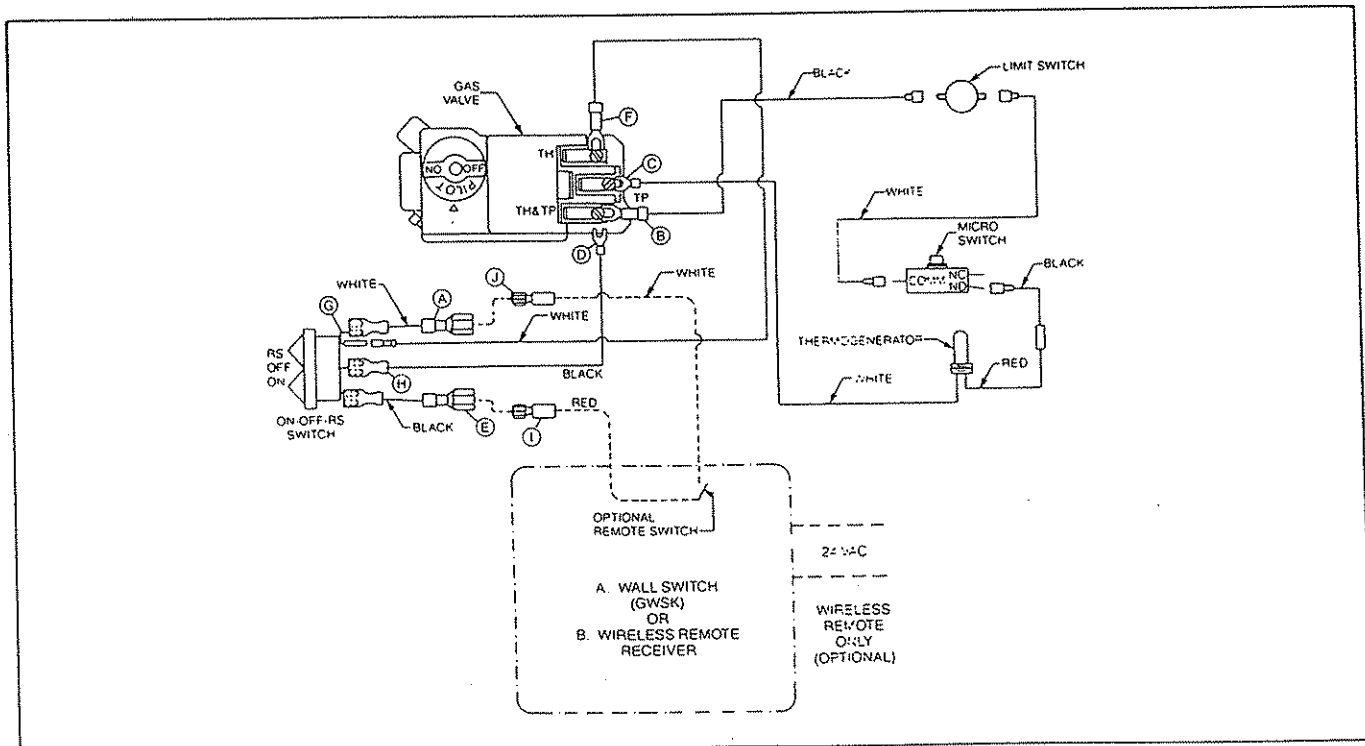

Fig. 16. Wiring diagram G36DVpi.
To the right and above the ON-OFF-RS SWITCH you will see two (2) similar non-attached connectors A and E. (See Fig. 16.) Insert connectors J (white wire) and I (red wire) of remote switch into connectors A (white wire) and E (black wire), respectively.
ON-OFF-RS SWITCH is shown in Fig. 16. in the "OFF" position. Your remote switch will only work with the three position ON-OFF-RS SWITCH depressed on the "RS" (front) side. Your remote switch is now ready for use. The switch will not work when the ON-OFF-RS SWITCH is in the "OFF" (middle) position or "ON" (back) position.